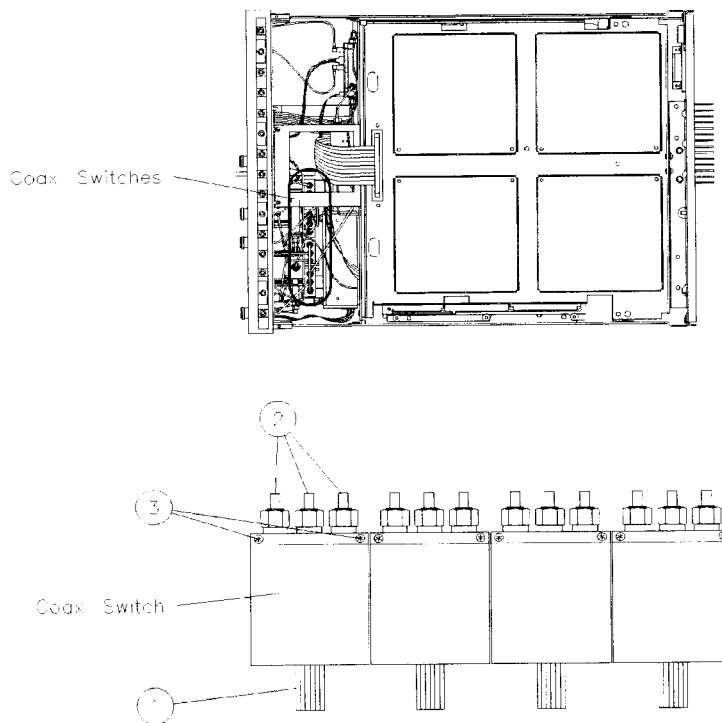

Figure 4-5 Front-Panel Coax Switch Replacement
2. Disconnect the ribbon cable assembly from that goes from the coax switch to the front-panel A1A1 interconnect board (1). Refer to Figure 4-5.
3. Loosen both ends of all three coax cable connections that go from the switch and the front-panel interconnect board (2). When both ends of each coax cable has been loosened, remove them from the instrument.
4. Remove the two screws that attach the switch to the switch assembly (3) and remove the switch from the instrument.
2. Replace the two screws that attach the coax switch to the switch assembly (3). Refer to Figure 4-5 on page 4-11.
3. Connect the three coax cable connections between the switch and the front-panel A1A1 interconnect board (2).
4. Connect the cable assembly to the switch (1).
2. Replace the eight screws, that secure the front-panel interconnect board to the front-panel assembly (5). Refer to Figure 4-5 on page 4-11.
3. Replace the three extended hex nuts to the front-panel interconnect board using a 6 mm nut driver (4).
5. Replace the four screws, one at each corner, that secure the front-panel switch assembly to the front-panel interconnect (3).
6. Connect the six semi-rigid cables that attach the front-panel switch assembly to the front-panel motherboard (2).
7. Connect the four ribbon cable assemblies from the front-panel switch assembly to the front-panel interconnect board (1).